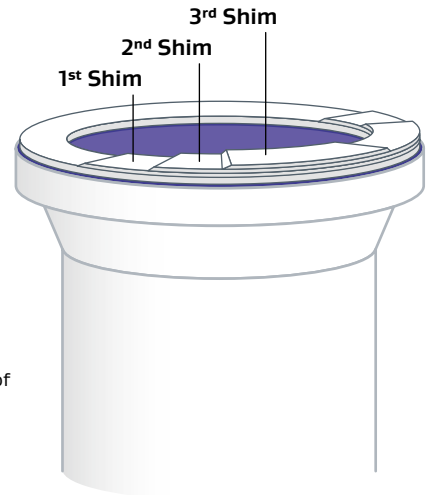
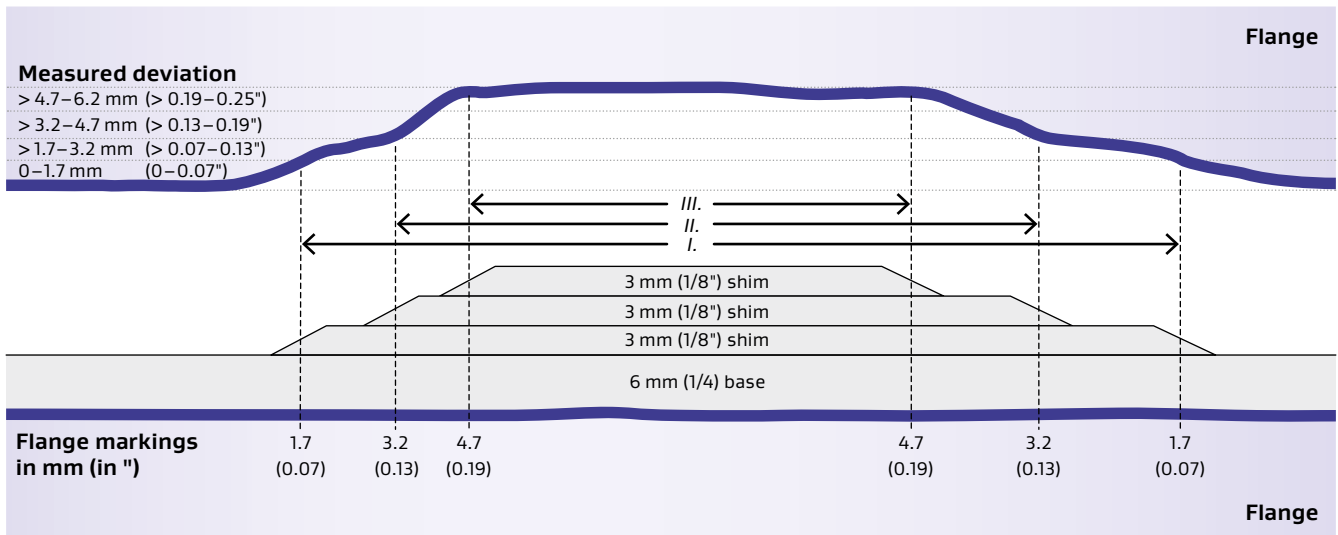

Figure 8: Illustration of multiple shim layers
Figure 7: Flange deviation example with 6 mm (1/4") base tape. Note: Figure is not to scale.
See Figure 7 for an example of completed flange deviation markings and associated shimming.
- On the stationary/bottom flange, mark all start- and end-points where the prescribed thickness of feeler gauge could be inserted. (See tool list for feeler gauge requirements.) Refer to Table 2 and Figure 7 for additional detail regarding use of a 6 mm base layer.
Use Gore's 3 mm (1/8") Series 1000 Shimming Tape to compensate for flange deviations that were previously marked (per Section 2.3). See Figure 7 for examples (I, II and III) of irregularities and associated flange markings. A multiple-shim installation is illustrated in Figure 8.
- Place the skive-cut end atop the base layer of gasket tape, with the skive ramp centered on the beginning deviation mark on the flange. (See Figure 7.)
- Skive-cut the squared end per Section 3.5, with the skive ramp centered on the ending deviation mark on the flange (See Figure 7). Be sure to remove the excess shim tape beyond the skive cut.